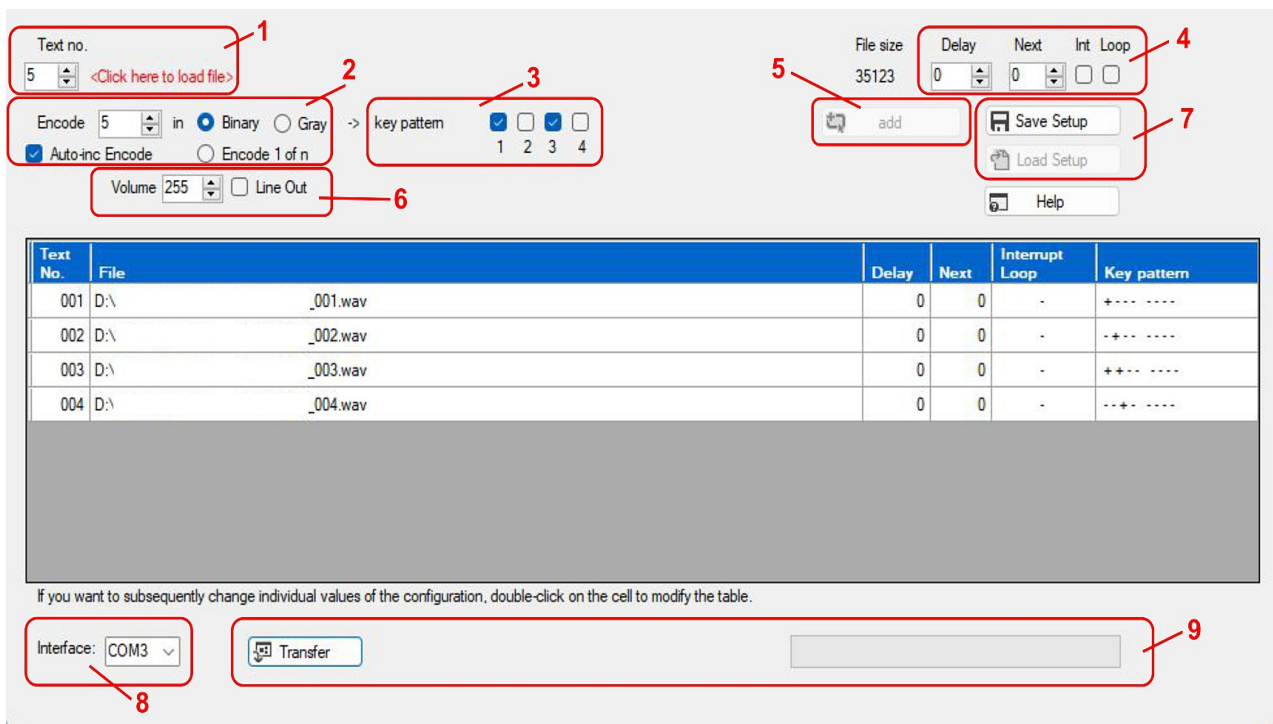

Figure 6: View of the programming interface
*The numbers in parentheses refer to Figure 6 on the following page.*